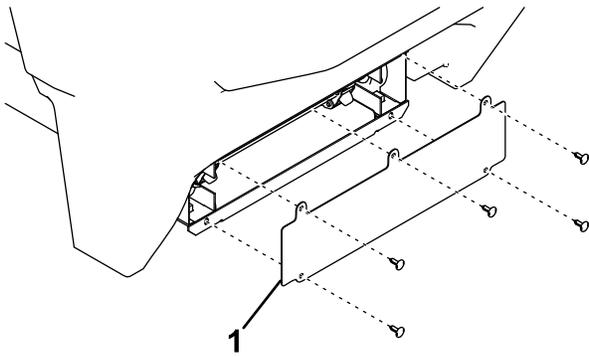

Figure 24
2. Remove the back cover shown in Figure 24.